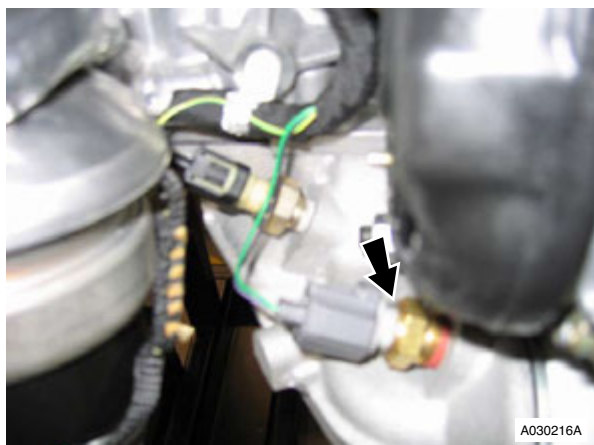

Figure 5
14. Disconnect multiplug from engine electric coolant temperature sensor (see Figure 5).